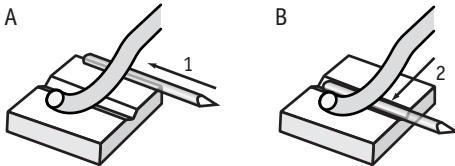

Figure 3-3: Mounting the tip under the single clamp
- 1 Put the tip wire on the tip holder parallel to the groove in the tip holder, so that it crosses below the tip clamp (*Figure 3-3: Mounting the tip under the single clamp, A*).
- 2 Move the tip wire sideways until it is in the groove in the tip holder (*Figure 3-3: Mounting the tip under the single clamp, B*).